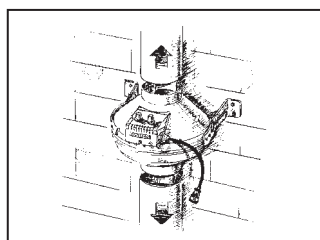
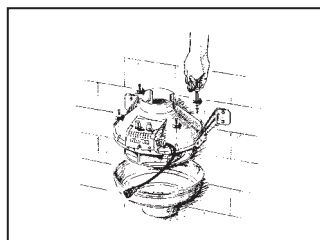

Fig. 17
Fig. 18
2. Remove the air ducts from the fan, fig. 17, remove the cover, fig. 18;